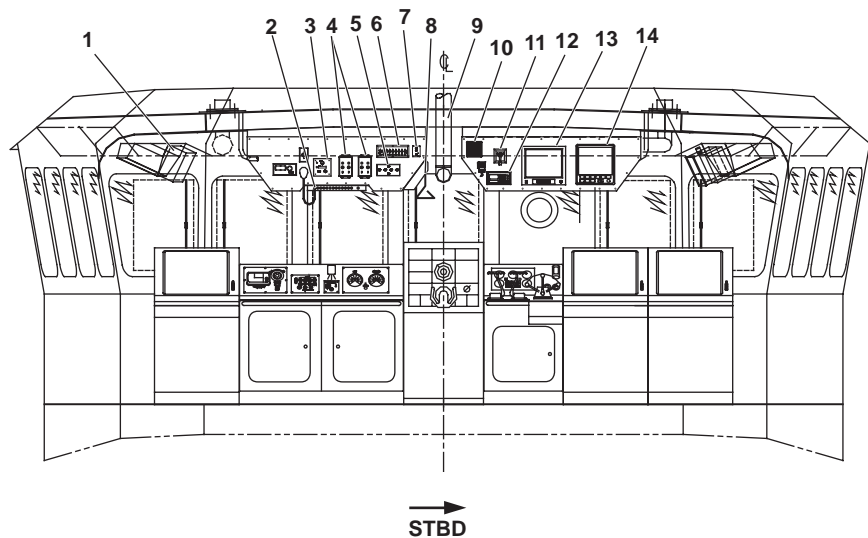

Figure 4. Pilothouse Interior (Looking Forward)
1. Digital Repeater Compass (figure 4, item 1). The digital repeater compass displays vessel heading from the gyrocompass.
2. Public Address (PA) panel (figure 4, item 2). The PA panel controls volume and destination for PA announcements.
3. Speed log (figure 4, item 3). The speed log displays vessel speed.
4. Clearview screen controls (figure 4, item 4). The clearview screen controls provide controls for the forward and aft clearview screens.
5. Windshield wiper control panel (figure 4, item 5). The windshield wiper control panel provides controls for the pilothouse windshield wipers and washers.
6. Window heater switch bank (figure 4, item 6). The window heater switch bank provides individual controls for the heated pilothouse windows.
7. Binnacle light panel (figure 4, item 7). The binnacle light panel provides controls for the binnacle light.
8. Horn pull (figure 4, item 8). The horn pull controls the operation of the ship's whistle (horn).
9. Mirror projection binnacle (figure 4, item 9). The mirror projection binnacle permits the helmsman to view the magnetic compass binnacle mounted on the pilothouse top.
10. Speaker (figure 4, item 10). The speaker broadcasts output from the marine VHF radio.
11. At will and automatic fog whistle controller (figure 4, item 11). The at will and automatic fog whistle controller provides controls for the automatic fog horn and permits selection between at will and automatic operating modes.
12. Marine VHF radio (figure 4, item 12). The marine VHF radio permits communication between the LT and other vessels and shore stations.
13. Nauto conning screen (figure 4, item 13). The nauto conning screen displays navigational information to the helmsman.
14. Depth finder (figure 4, item 14). The depth finder displays the water depth.